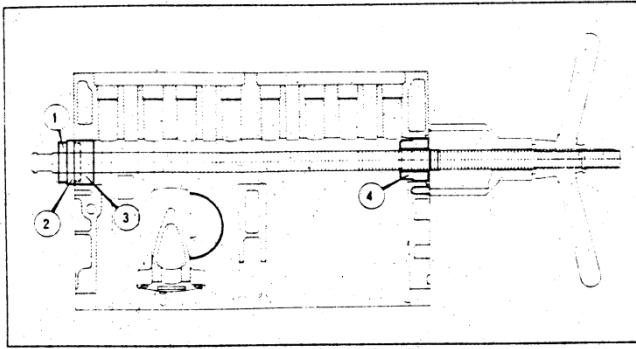

Figure 22 Removing camshaft front bearing
1. To replace camshaft bearings position the general tool and components as shown in **Figure 22,23,**and **24**.